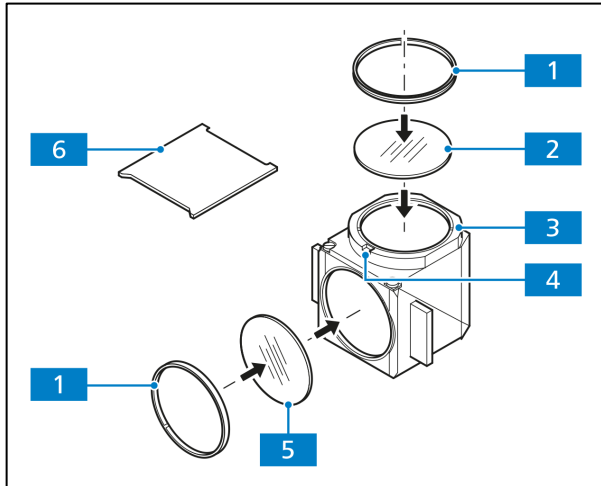

Fig. 3-41 Changing the filters in the reflector module FL P&C
- Remove the reflector module FL P&C (Fig. 3-41/3) from the reflector turret (see also section 3.1.6).
- Unscrew the adapter ring (Fig. 3-41/1) with the mounting plate included with the tools (Fig. 3-41/6).
- Turn over the reflector module and let the filter (Fig. 3-41/2 or 5) drop onto a soft surface.
- Insert the emission filter (Fig. 3-41/2) or the excitation filter (Fig. 3-41/5) respectively at the position shown in Fig. 3-41.
- Fix the filters with the corresponding adapter ring (Fig. 3-41/1).
The emission filter and excitation filter usually have a name and an arrow on their rims. The arrow indicates the direction of insertion and must always point to the inside of the reflector module (see arrows in Fig. 3-41). To minimize the image offset in multiple fluorescence images, the emission filter may have another mark to level the point angle.
When mounting the appropriate emission filter in the according reflector module, the mark should be aligned with the orientation groove (Fig. 3-41/4). This guarantees that the point angle in the reflector modules acts equally and compensates or minimizes the image offset – already low in ZEISS filter sets – even further.